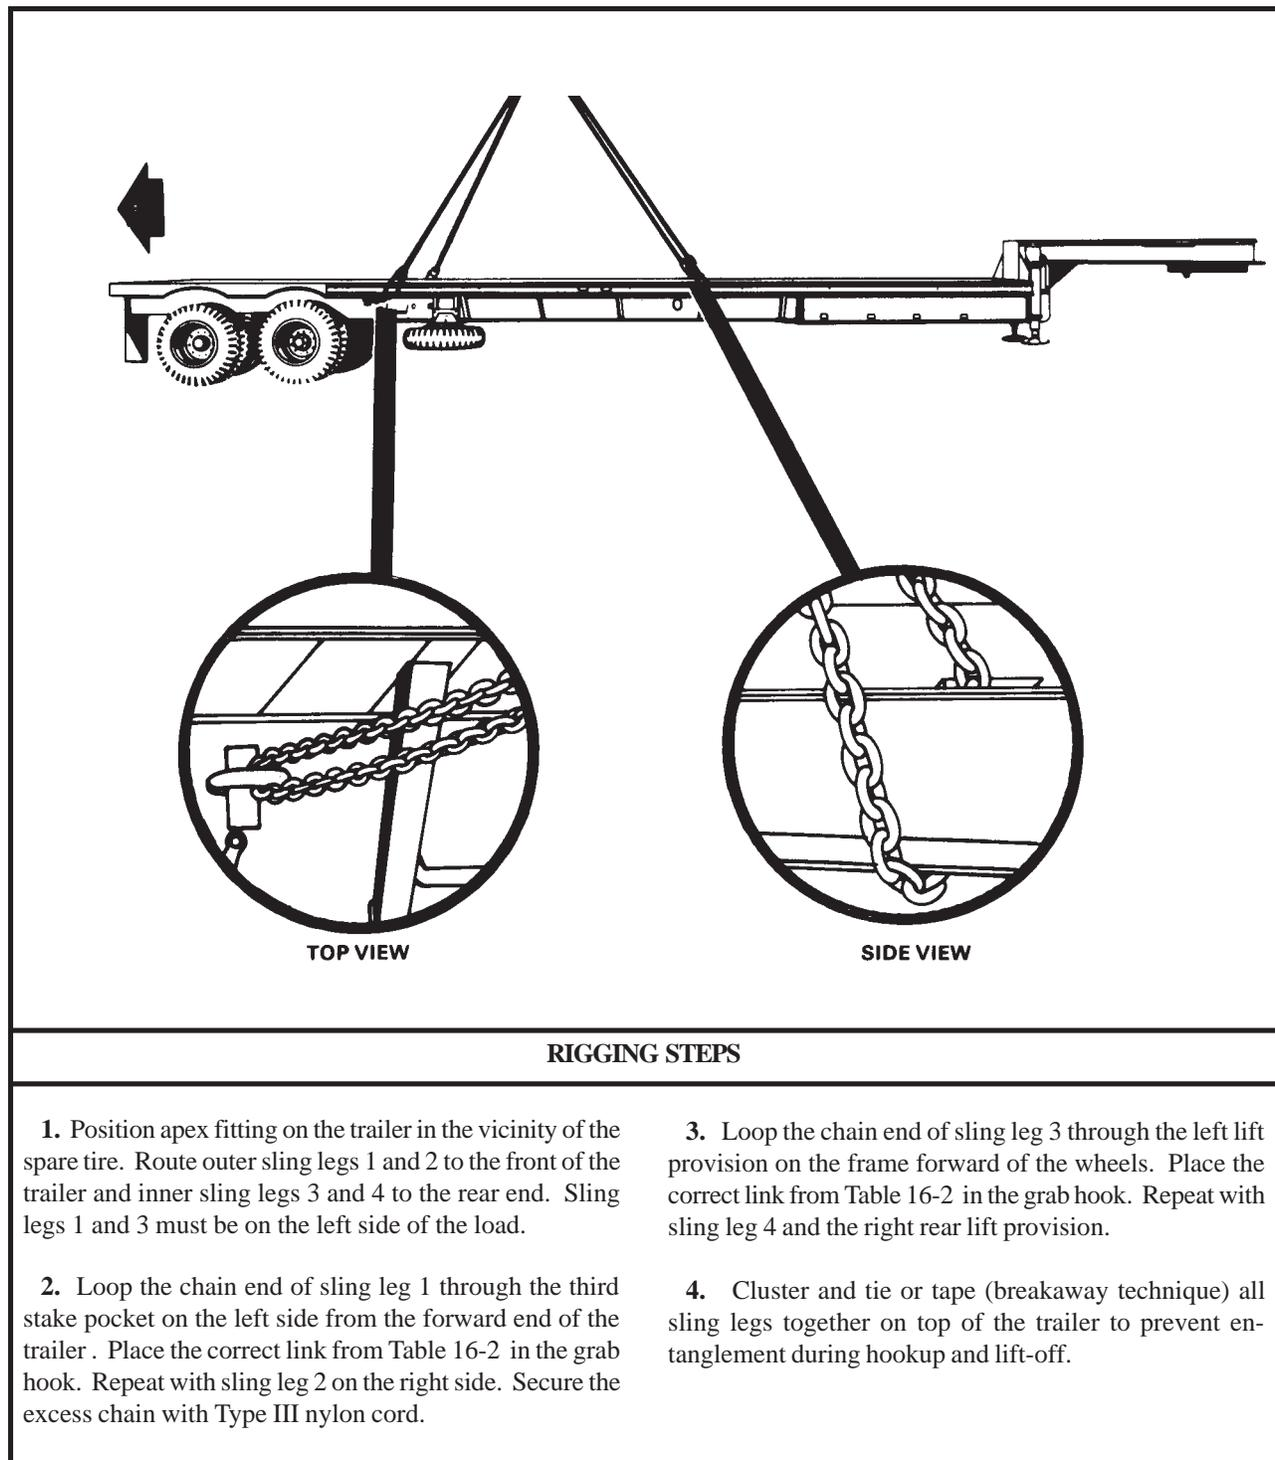

Figure 16-2. M270A1 Semitrailer, Wrecker
(2) **Rigging.** Rig the load according to the steps in Figure 16-2.
(4) **Derigging.** Derigging is the reverse of the rigging procedures in step d (2).